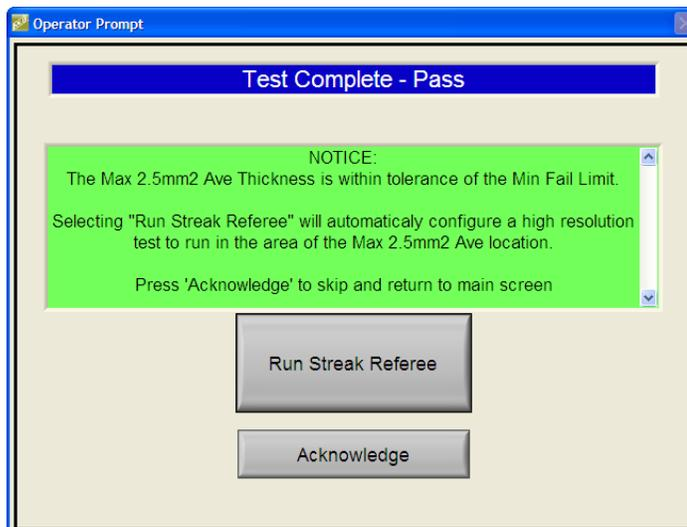

Figure 33 – SR (Streak Referee) Warning Popup Display
- SR (Streak Referee) with 'Streak Referee' recommendation (figure 33)